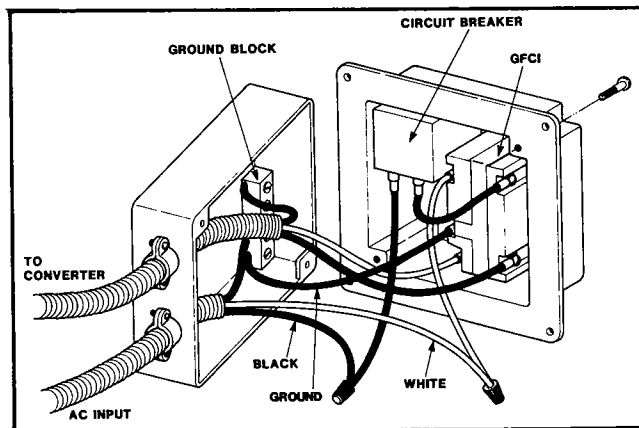

Figure 35. Camper Trailer Receptacle Wiring
1. Remove the receptacle box/cover from the side of the over-the-sink cabinet (figure 35).